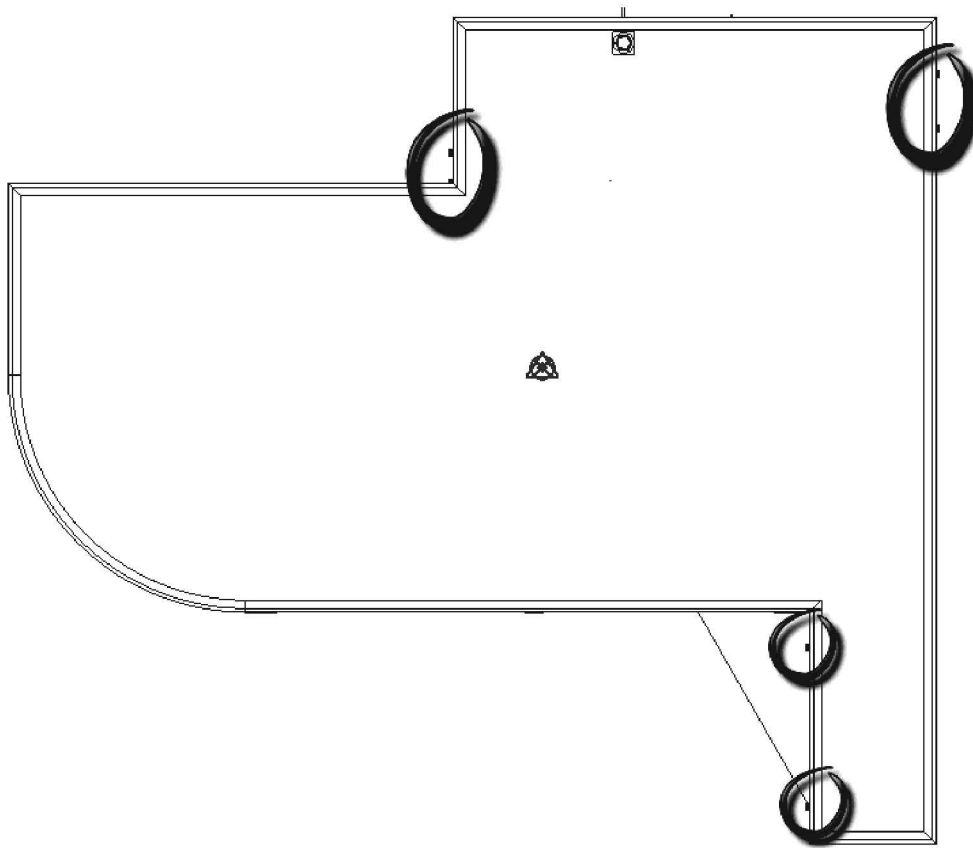

FIGURE 15-1.5 Site Plan view – 6 points to be selected (elev -0'-0")
8. With the *Elevation* set to **0'-0"**, pick the six points shown in Figure 15-1.5; these points are at the exterior door locations.